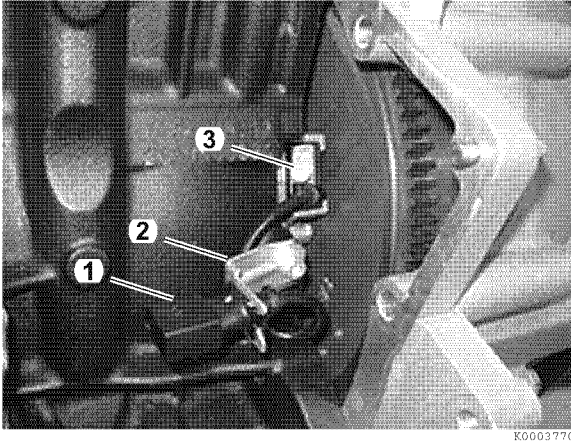

Figure 12-28
3. Disconnect harness connector from crankshaft sensor connector (1, **Figure 12-28**).
4. Remove connector from mounting bracket (2, **Figure 12-28**).
5. Remove screw (3, **Figure 12-28**) and remove sensor from engine.
6. Install sensor and tighten screw (3, **Figure 12-28**) to 9.5 N·m (84 in.-lb).